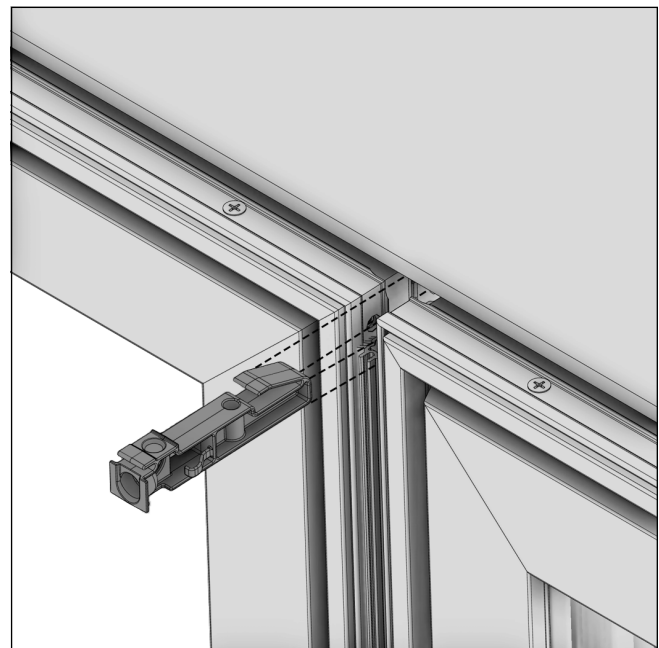
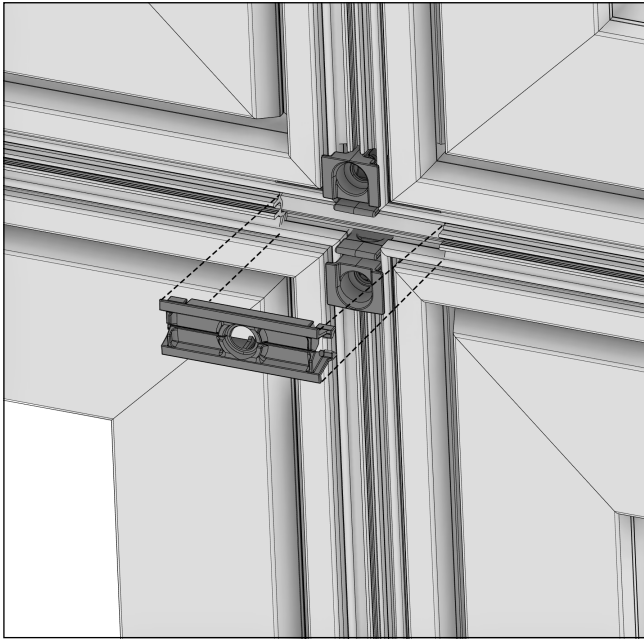

Figure 80 Multi-wide assembly with mull end plug
Figure 81 Multi-wide/multi-high assembly with mull cross plug
16. Install mull plugs and cross plugs if applicable. See Figure 80 and Figure 81.